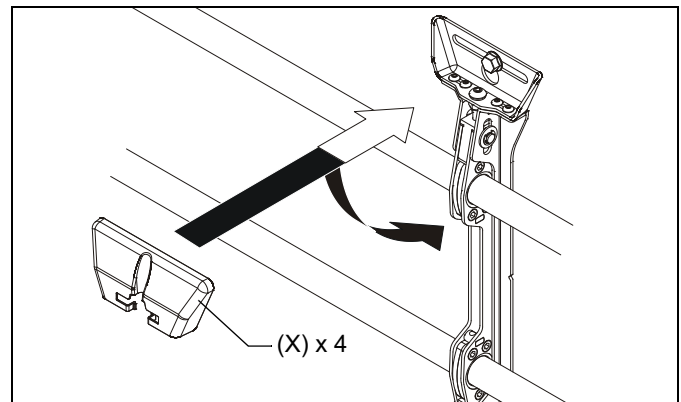

Figure 14
1. Attach wall covers (X) to top and bottom of both wall brackets. (See Figure 14)
3. (MTM1U / LTM1U only) Move latch on top of interface brackets to CLOSED position. (See Figure 14)